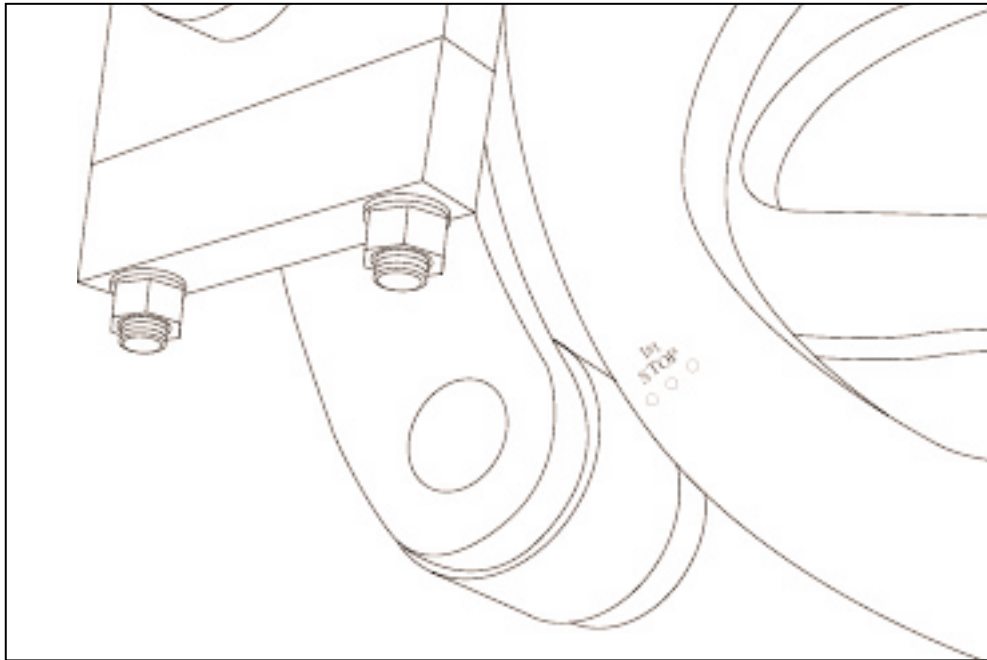

Figure 18.22 "FIRST STOP" (R.H. side of machine).
- 18.2.2 Run machine to "first stop" (see figure 18.22)